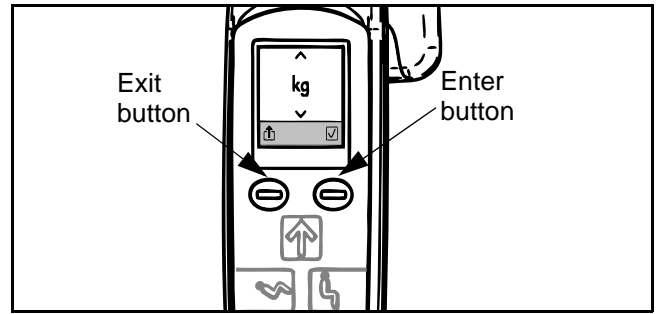

Fig. 71
- 3) Press the Enter button to access the units of measurement option. The units of measurement "kg" or "lb" will replace the scale icon in the middle of the screen (see Fig. 71).